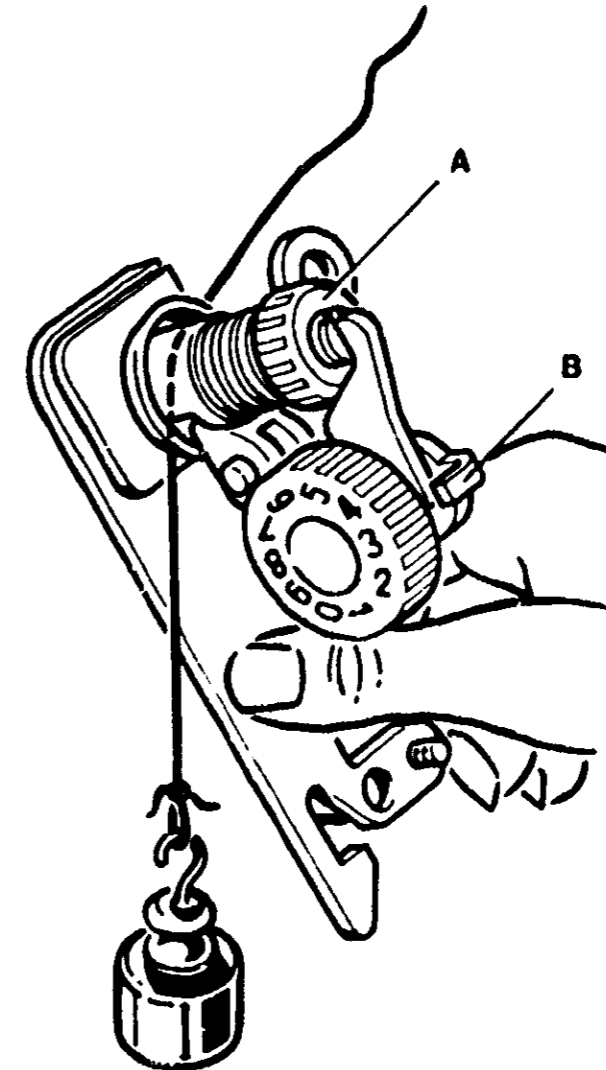

FIGURE 4
- The thread tension assembly is adjusted by turning knurled nut (A) (Figure 4). It will be necessary to remove the tension assembly (Figure 4) from the machine to make this adjustment. Refer to "Upper Tension Assembly Replacement" paragraph 7.
- To adjust tension assembly, rotate the knurled ring nut (A) (Figure 4) repeating the thread tension tests described previously. If satisfactory adjustment cannot be obtained, replace tension assembly.